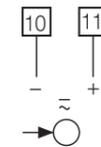

Fig. 5. Power supply connection.
Connect the power supply to terminals (10) (\approx) and (11) (\pm) as shown in Fig. 5.